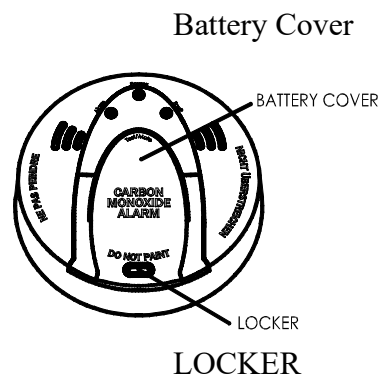

Figure 3.
1. Gently press the transparent locker (see figure 3 as below) and flip